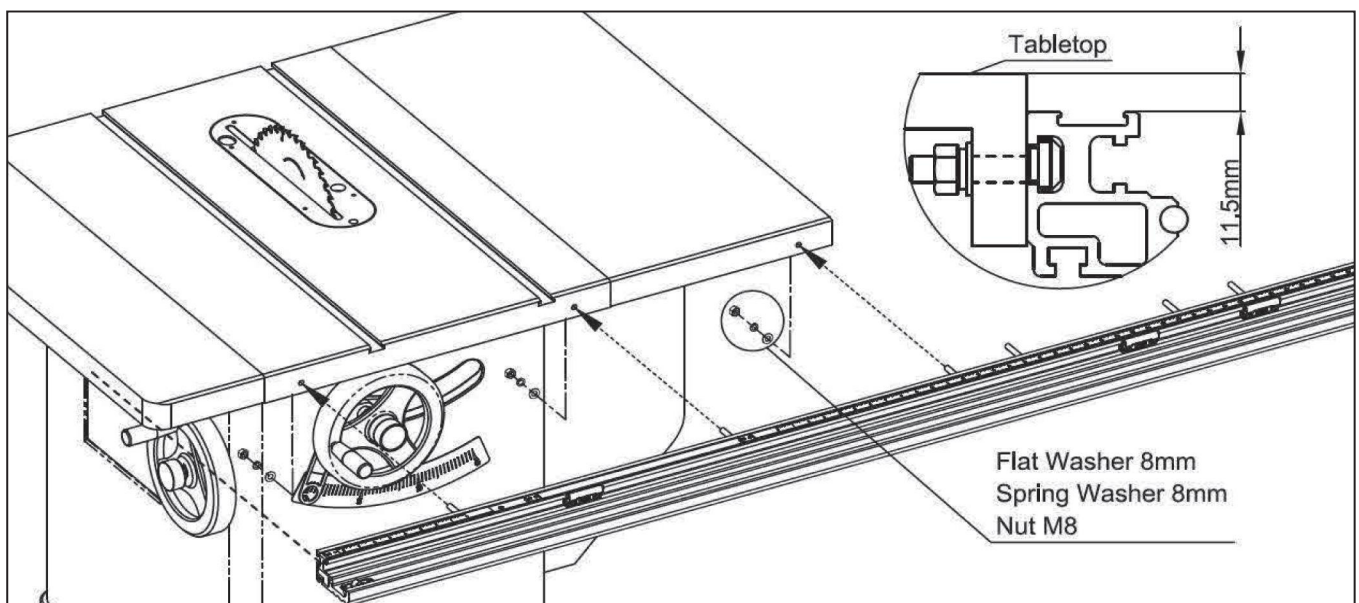

Fig. 6-4
2. As shown in **Fig. 6-4**, to install the Front Guide Rail Assembly and securely fasten the nuts. Ensure that the top surface of the guide rail is positioned 11.5mm below the table working surface and that the end of the guide rail aligns with the outer edge of the left wing before tightening.